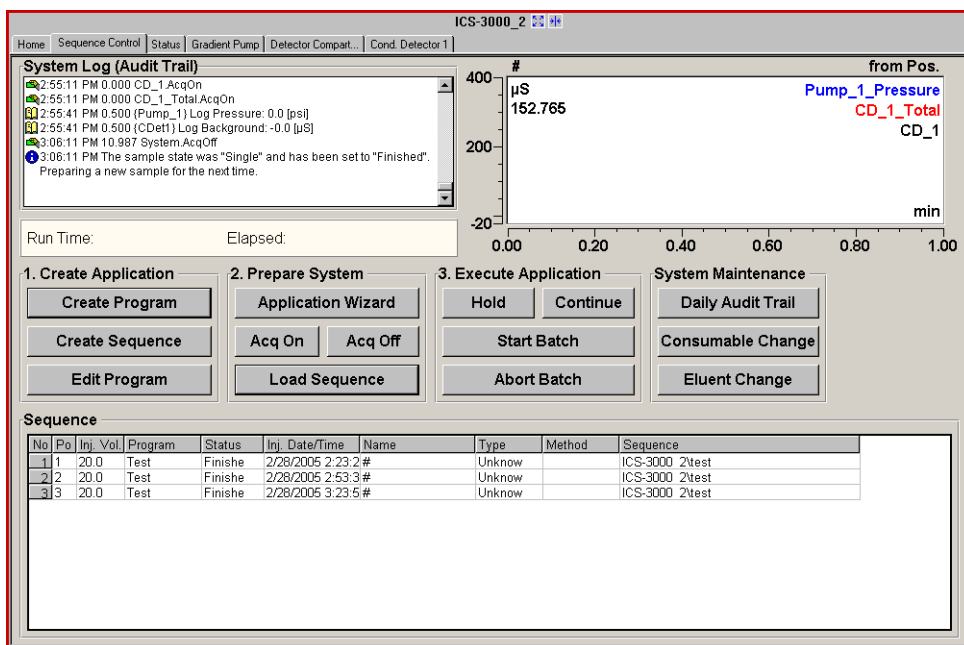

Figure 5-7. Sequence Control Panel
1. Click **Create Sequence** on the **Sequence Control** panel (see Figure 5-7).